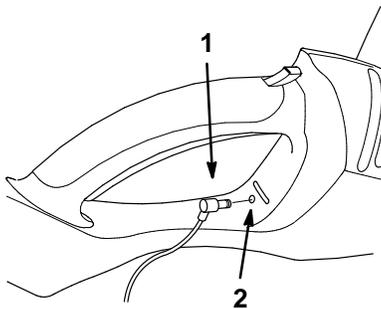

Figure 6
2. Insert the round plug on the charging cord into the receptacle under the rear handle (Fig. 6).